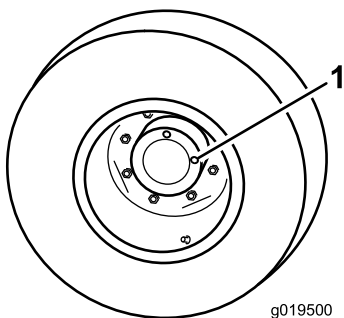

Figure 85
1. With machine on level surface, position the wheel so one check plug (Figure 85) is at the 12 o'clock position and the other is at 3 o'clock position.
1. Check/drain plug (2)
2. Remove the plug at the 3 o'clock position (Figure 85). Oil level should be at the bottom of the check plug hole.